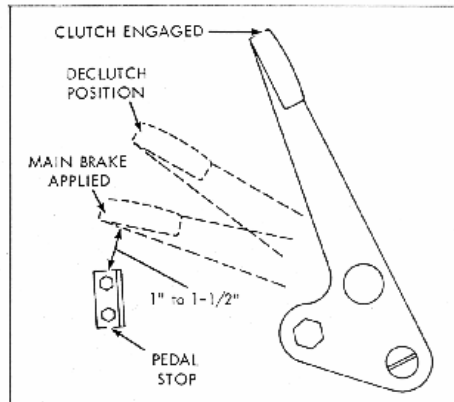

FIGURE 21
3. Brake shoe must contact drum when CLUTCH-BRAKE pedal is approximately 1" to 1 1/2" from pedal stop on frame. (See Figure 21.)